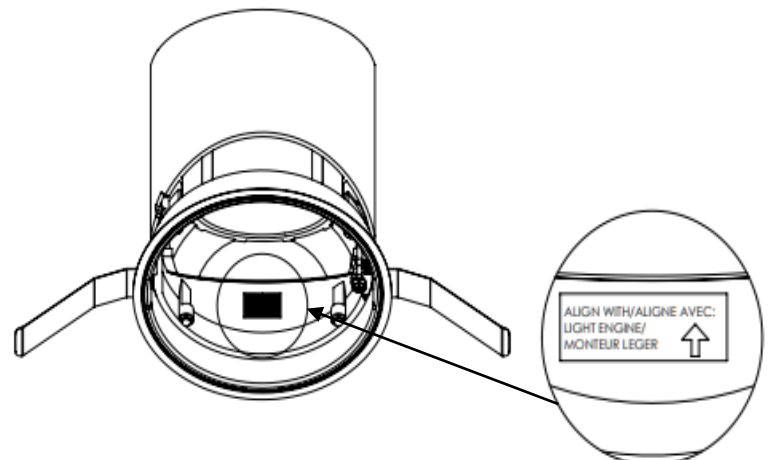

Figure 3.2
*Note: See Page 3 for Adjustment Instructions. Square Trim shown as example in the next steps, only installs in Square Aperture. For round light module, align trim label with light engine label (Fig 3.2). Only for 4in luminaire size.*